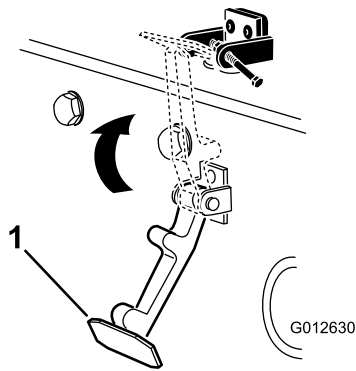

Figure 9
6. Hook the latch onto the hood-latch bracket (Figure 9).